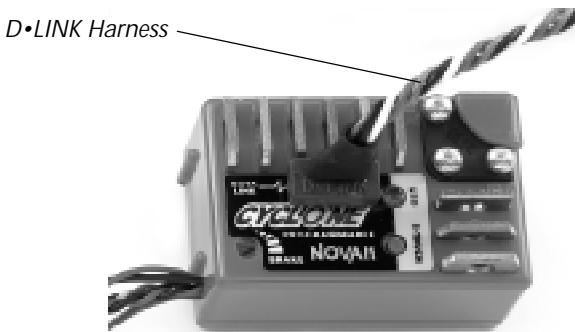

Figure 10: Photo showing connection of D•LINK Harness.
1. Install four (4) 1.5 volt LR6 (AA) Batteries
–Remove the two (2) screws from bottom edge of the top-side of Pit Wizard case with a number 1 Phillips screwdriver, turn the unit over and remove the two (2) remaining Phillips-head screws that secure the lower portion of the case bottom.
–Insert four (4) 1.5 volt LR6 (AA) batteries (*Not included*) into the battery box—Cell orientation is illustrated in battery box.
–Replace the lower portion of the case bottom install all four (4) Phillips-head screws—Be careful not to overtighten.
–Connect the Pit Wizard's D•LINK harness to your Cyclone's DataLink socket (Figure 10) located on the top of the speed control. *The D•LINK connector can only clear the transistors on the speed control if the "D•LINK" lettering is right side up.* If external heat sinks are installed, be sure that they do not extend beyond the front edge of the transistors—You may need to reposition heat sinks to gain proper access to connector.
3. Connect the Pit Wizard's D•LINK harness to the DataLink socket on top of the Cyclone. The D•LINK connector will only clear the transistors of the speed control if the "D•LINK" lettering is right side up (Figure 10). If external heat sinks are installed, be sure that they do not extend beyond the front edge of the transistors (*they may have to be repositioned to access connector*).